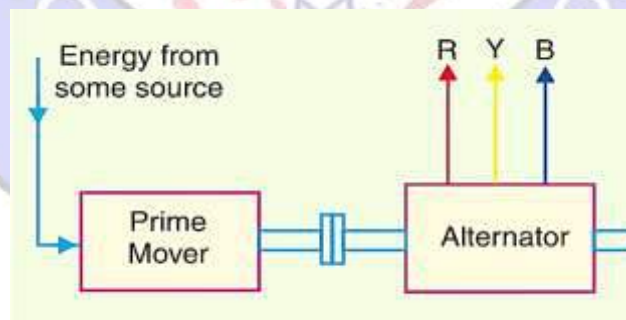

Fig. 1: General way to produce electrical energy
- Figure 1 shows the general way how to produce electrical energy: